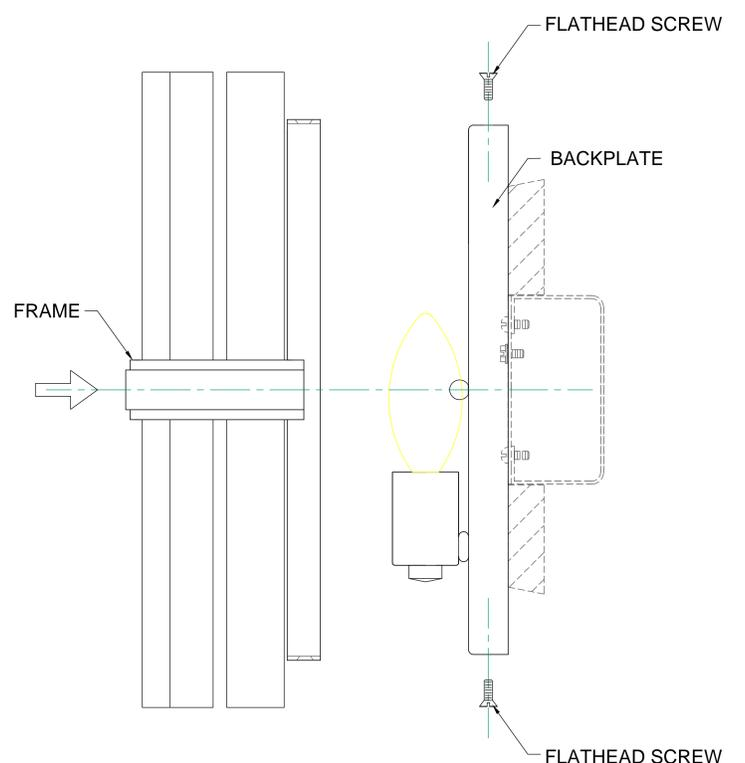

FIGURE-04
7. Attach the fixture frame to the backplate and secure it with flathead screws on top and bottom. (See Figure-04)